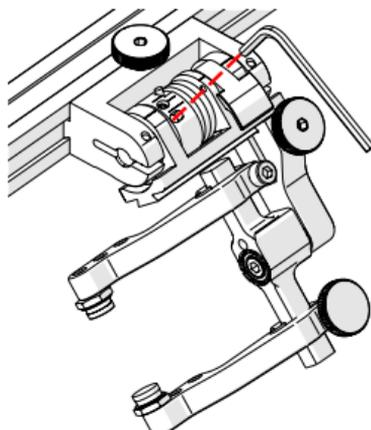

Fig. 101 - Unlatched position
3. Insert the short arm of a 3 mm hex wrench into the 3 mm slot (Fig. 101).